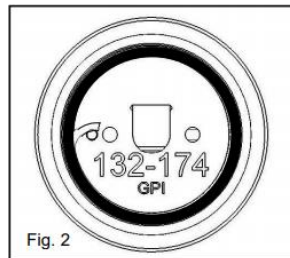

Fig. 2
**3. Pre-Installation (Figure 2):**
- C. Ensure O-ring is properly seated within O-ring groove as shown in Figure 2.
- D. **Important:** Verify proper operational Frequency, as labeled. (Figure2).